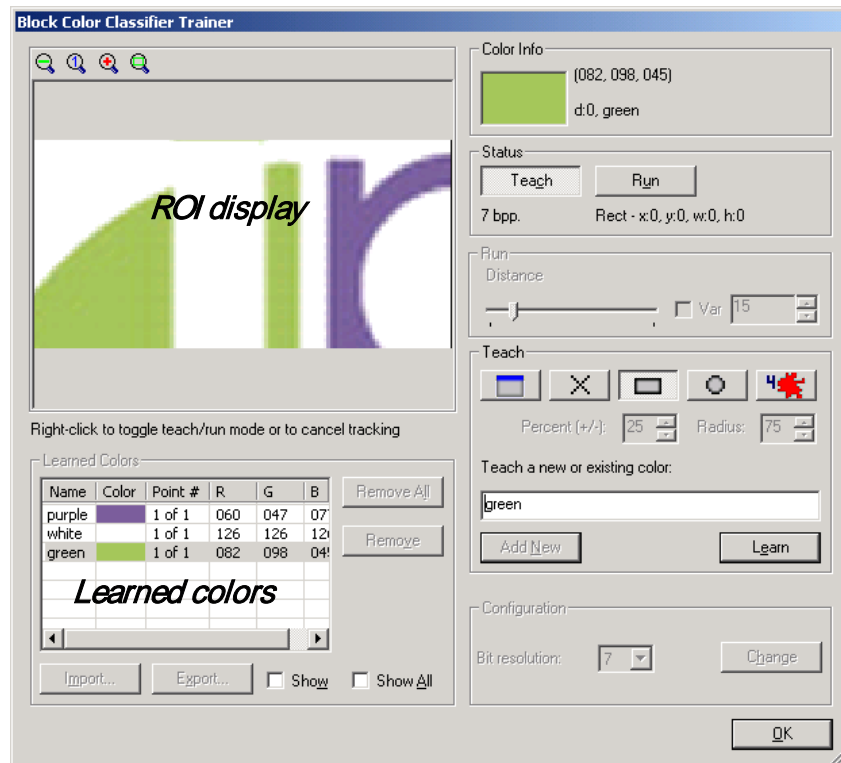

Figure 68. Block Color Classifier Trainer
- The Block Color Classifier (Figure 68) allows multiple color “points” for each label or name, and allows only one distance value for all colors.